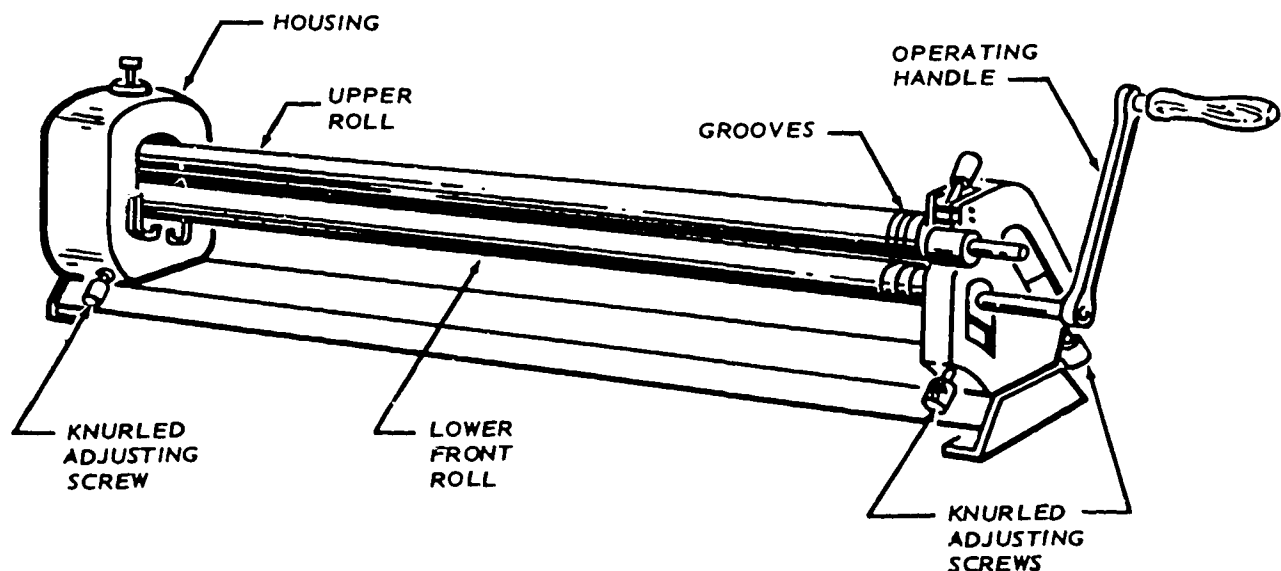

Figure 3-4. Hand-operated slip roll.
**Hand Operated Slip Roll Forming Machine.** The slip roll forming machine, illustrated in figure 3-4, is used to form sheets into cylinders of various diameters. The machine is simply constructed and consists of right- and left-end frames (housing) between which are mounted three solid steel rolls—two lower rolls and one upper roll. The two lower rolls are connected by gears operated by a handcrank. The lower front roll can be adjusted to the thickness of the metal by means of two knurled adjusting screws (one at each end of the roll). Once the metal is started into the machine, it is gripped between the lower front roll and the upper roll and is carried to the lower rear roll which bends it around the upper roll, thus forming a cylinder. Turning the adjusting screws at each end of the lower rear roll to the right, produces a smaller radius. Turning the screws to the left, produces a larger radius.